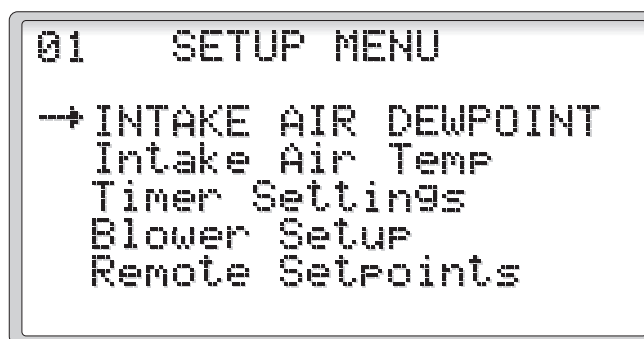

Figure 34
2.3.3.1 Unit Setup (Figure 34)